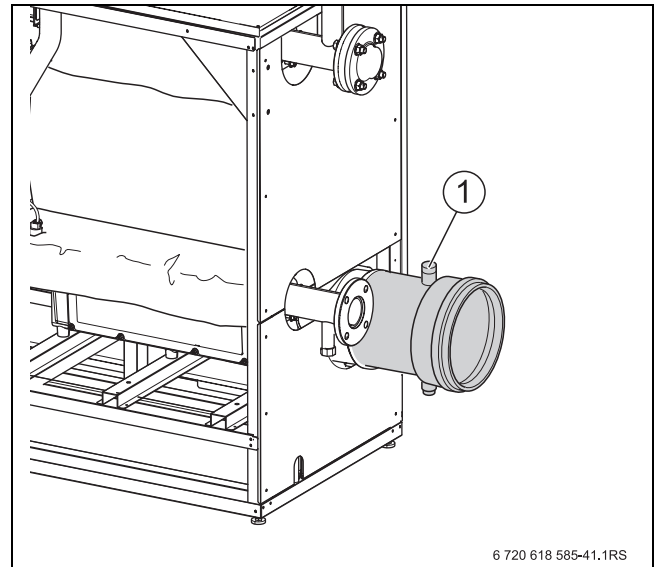

Fig. 36 Recording actual values
- ▶ Insert the test sensor through the test port (→ Fig. 36, page 35) in the flue into the core flow and check the CO₂ content.